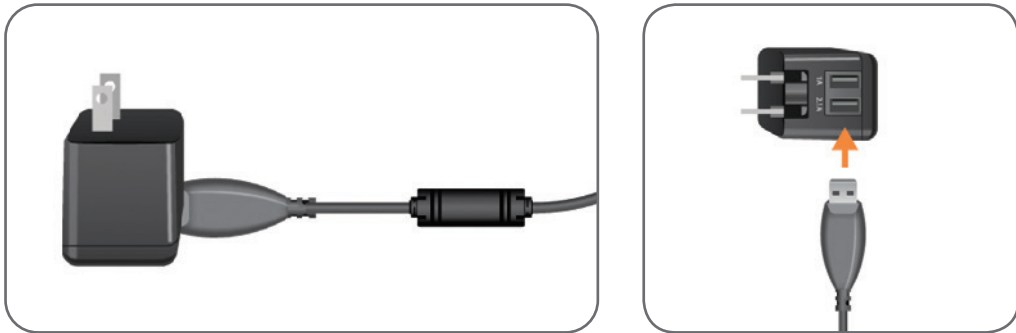

Figure 6-1: Inserting USB Charging Cable into AC Adapter
2. Insert the USB end on the magnetic charging cable into any of the two available USB ports on the AC adapter. For individuals using both the right and left Thigh Cuff, connect an additional USB charging cable to the AC adapter. See Figure 6-1.